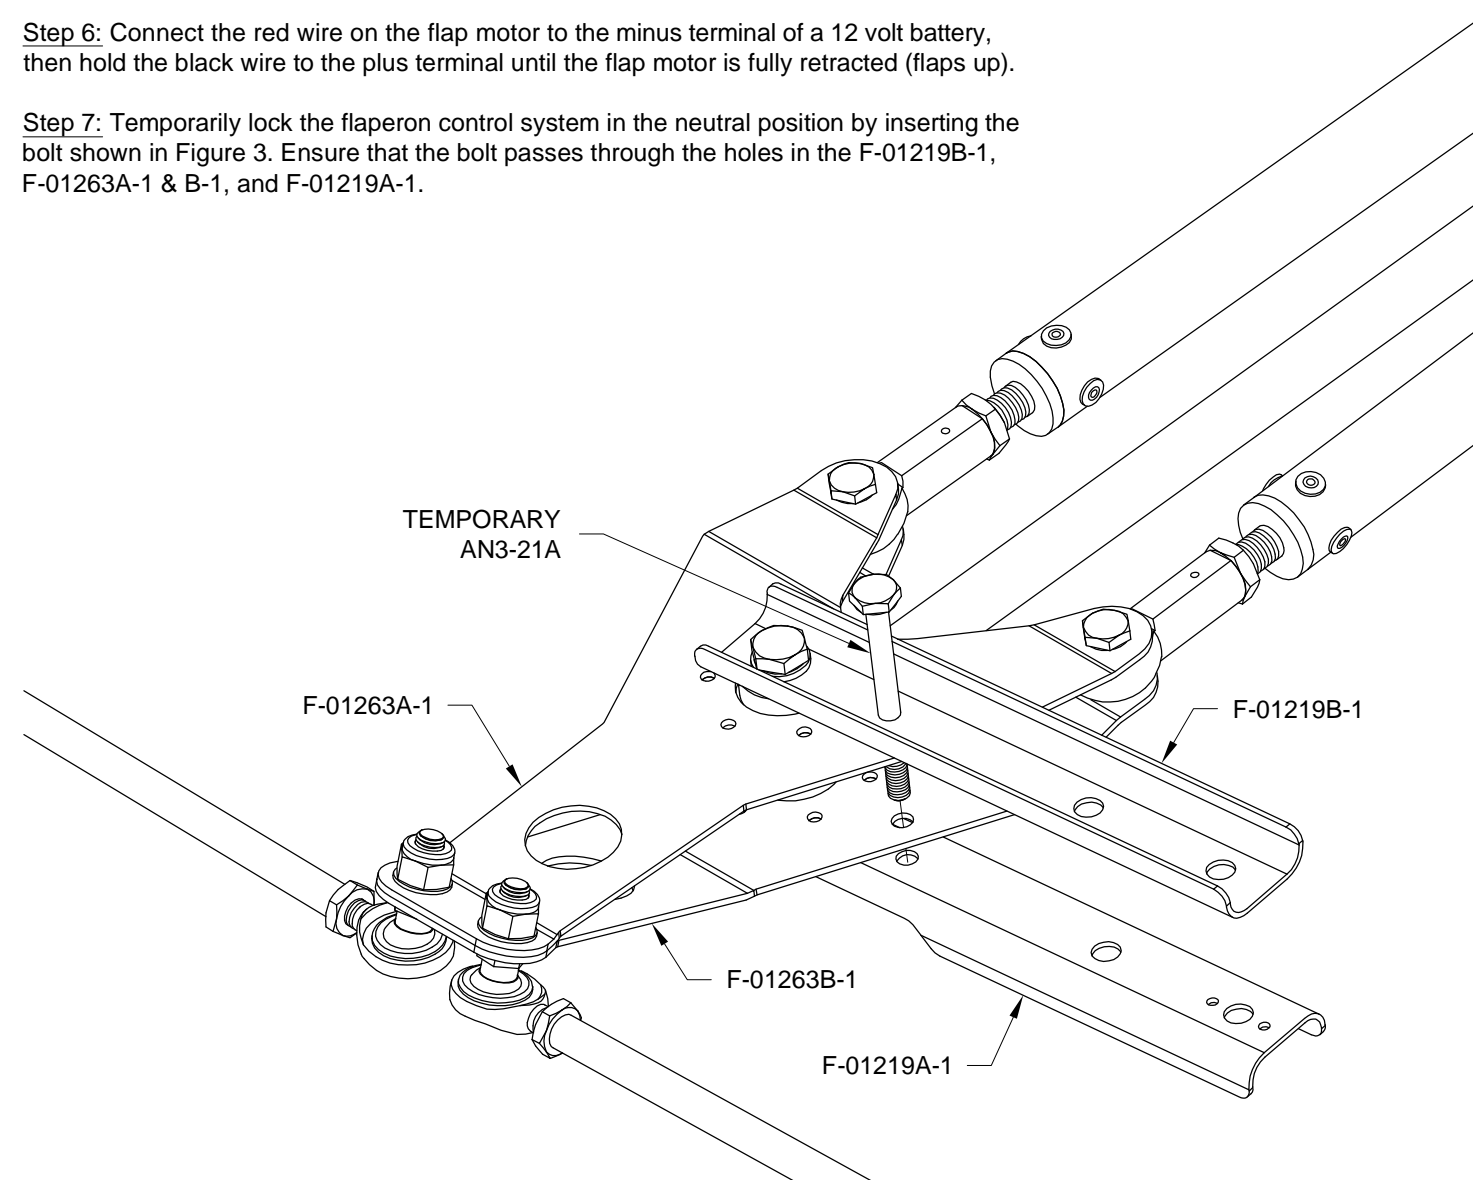

FIGURE 3: LOCKING THE FLAPERON CONTROL SYSTEM
Step 7: Temporarily lock the flaperon control system in the neutral position by inserting the bolt shown in Figure 3. Ensure that the bolt passes through the holes in the F-01219B-1, F-01263A-1 & B-1, and F-01219A-1.